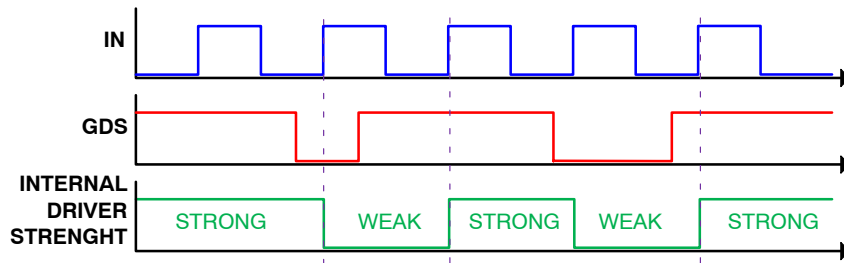

Figure 41. GDS Input Timing Behavior
Similarly, as EN Input, the GDS is a Schmitt trigger input, which typically high and low levels are 1.6 and 1.2 V, respectively. GDS Input Gate Drive Strength sets Driver turn-on resistance. If the GDS pin is at low-level, then turn-on resistance is approximately 300  $\Omega$ . If GDS is pulled to high-level, then turn-on resistance is 10  $\Omega$ . When GDS is controlled externally, use a small filter to filter out noise that may come from high-speed switching. If GDS feature is not needed and driver strength should be set to high level, then it's better to pull-up GDS pin to VDD via low impedance <100  $\Omega$  – same approach as in case of EN pin. The NCP58920 GDS feature is dedicated for accompanying device with Active Clamped Flyback controller NCP51568. In a such implementation is GDS input controlled based on NCP1568 FB signal, which sets “Low Driver Strength” for low FB levels (during burst mode or light-load mode) and “High Driver Strength” for power level, that pushes FB signal level above high threshold. GDS Input is level sensitive, and its proper level must be set approximately 15 ns before PWN (IN) signal edge comes. Once driver strength is confirmed by PWM rising edge, its level is kept until next PWM rising edge is introduced. GDS signal does not have any impact during mid-cycle change or after active level cycle change. GDS Input timing dependency is depicted in Figure 41.